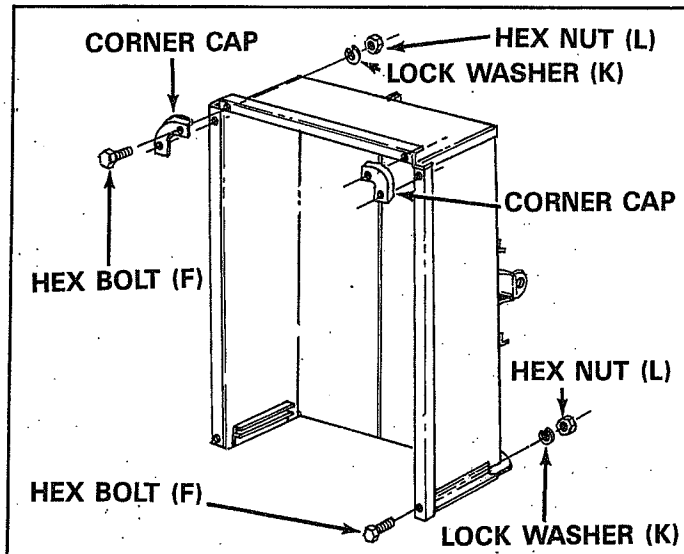

FIGURE 9
- Assemble two front top corner caps and two bolts in top flanges through tailgate reinforcement bracket using 1/4" x 1/2" hex bolts (F), lock washers (K) and hex nuts (L). See figure 9. Tighten all bolts.